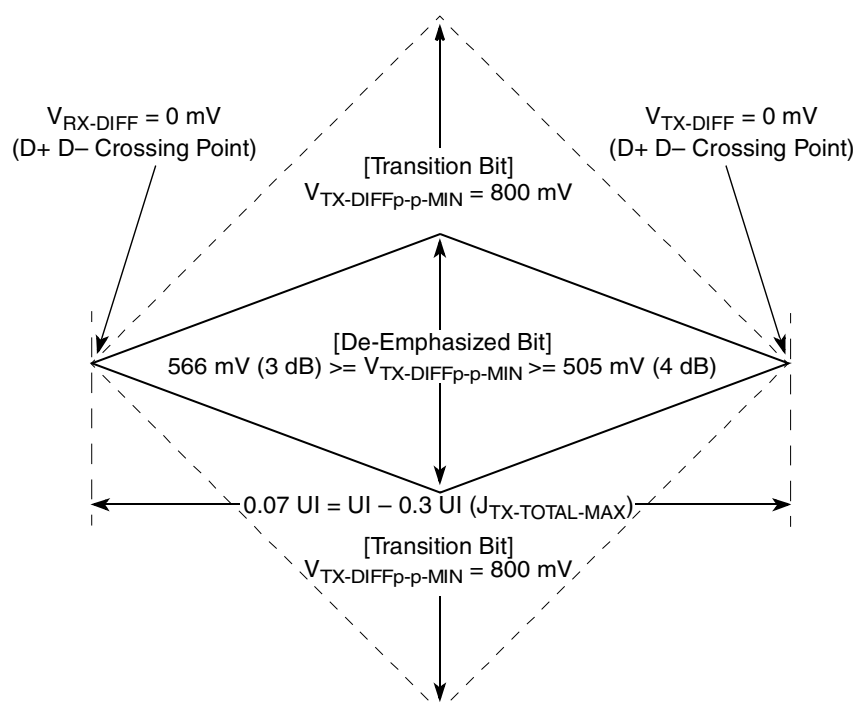
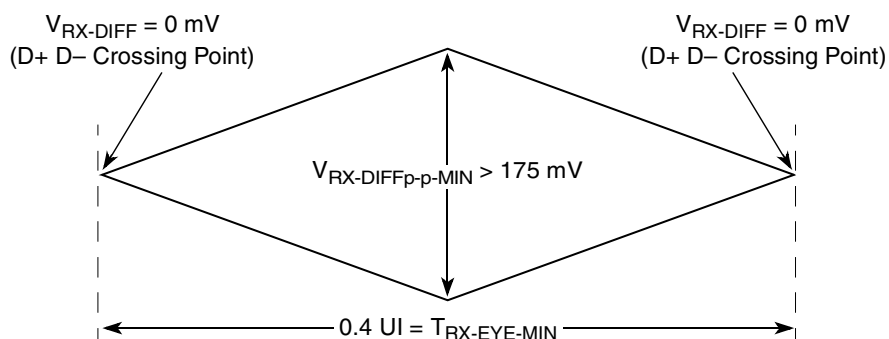
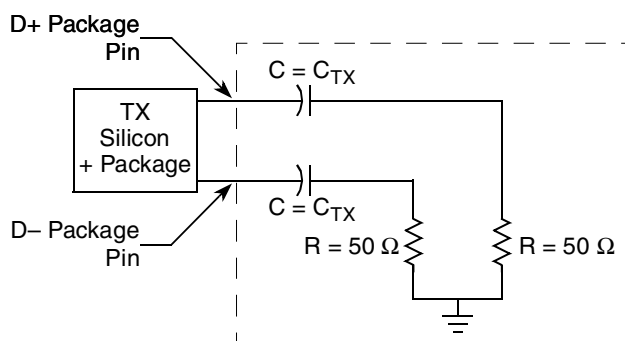

Figure 48. Minimum Transmitter Timing and Voltage Output Compliance Specifications
Figure 49. Minimum Receiver Eye Timing and Voltage Compliance Specification
Figure 50. Compliance Test/Measurement Load
2. Specified at the measurement point into a timing and voltage compliance test load as shown in Figure 50 and measured over any 250 consecutive TX UIs. (Also refer to the transmitter compliance eye diagram shown in Figure 48.)
4. The transmitter input impedance shall result in a differential return loss greater than or equal to 12 dB and a common mode return loss greater than or equal to 6 dB over a frequency range of 50 MHz to 1.25 GHz. This input impedance requirement applies to all valid input levels. The reference impedance for return loss measurements is 50 Ω to ground for both the D+ and D– line (that is, as measured by a vector network analyzer with 50- Ω probes—see Figure 50). Note that the series capacitors C_{TX} is optional for the return loss measurement.
5. Measured between 20%–80% at transmitter package pins into a test load as shown in Figure 50 for both V_{TX-D+} and V_{TX-D-} .
The TX eye diagram in Figure 48 is specified using the passive compliance/test measurement load (see Figure 50) in place of any real PCI Express interconnect +RX component.
2. Specified at the measurement point and measured over any 250 consecutive UIs. The test load in Figure 50 should be used as the RX device when taking measurements (also refer to the receiver compliance eye diagram shown in Figure 49). If the clocks to the RX and TX are not derived from the same reference clock, the TX UI recovered from 3500 consecutive UI must be used as a reference for the eye diagram.
4. The receiver input impedance shall result in a differential return loss greater than or equal to 15 dB with the D+ line biased to 300 mV and the D– line biased to –300 mV and a common mode return loss greater than or equal to 6 dB (no bias required) over a frequency range of 50 MHz to 1.25 GHz. This input impedance requirement applies to all valid input levels. The reference impedance for return loss measurements for is 50 Ω to ground for both the D+ and D– line (that is, as measured by a vector network analyzer with 50- Ω probes—see Figure 50). Note: that the series capacitors CTX is optional for the return loss measurement.
The RX eye diagram in Figure 49 is specified using the passive compliance/test measurement load (see Figure 50) in place of any real PCI Express RX component.
Note: In general, the minimum receiver eye diagram measured with the compliance/test measurement load (see Figure 50) is larger than the minimum receiver eye diagram measured over a range of systems at the input receiver of any real PCI Express component. The degraded eye diagram at the input receiver is due to traces internal to the package as well as silicon parasitic characteristics which cause the real PCI Express component to vary in impedance from the compliance/test measurement load. The input receiver eye diagram is implementation specific and is not specified. RX component designer should provide additional margin to adequately compensate for the degraded minimum receiver eye diagram (shown in Figure 49) expected at the input receiver based on some adequate combination of system simulations and the return loss measured looking into the RX package and silicon. The RX eye diagram must be aligned in time using the jitter median to locate the center of the eye diagram.
The reference impedance for return loss measurements is 50. to ground for both the D+ and D– line (that is, as measured by a vector network analyzer with 50-Ω probes—see Figure 50). Note that the series capacitors, CTX, are optional for the return loss measurement.
The AC timing and voltage parameters must be verified at the measurement point, as specified within 0.2 inches of the package pins, into a test/measurement load shown in Figure 50.